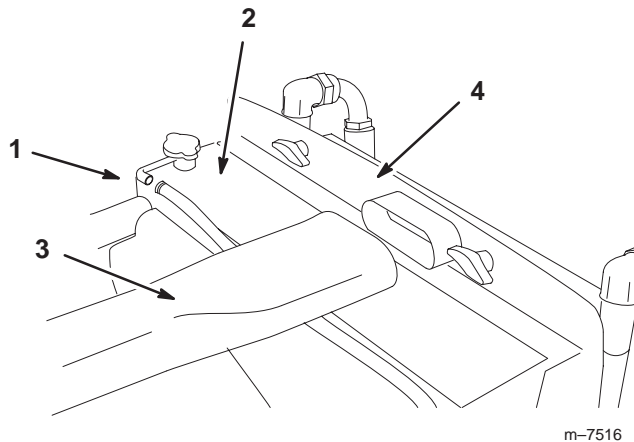

Figure 1
6. Disconnect the overflow bottle hose from the radiator (Fig. 1).
7. Detach the air cleaner hose from the radiator support (Fig. 1).